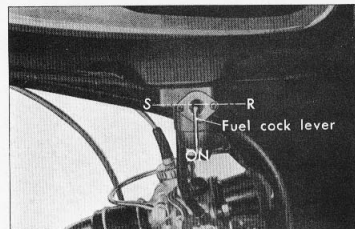

Figure 6-15. Fuel cock lever
- b. Disconnect the fuel feed tube from the carburetor and check the fuel flow with the fuel cock in the ON or the RES position. (Fig. 6-15)